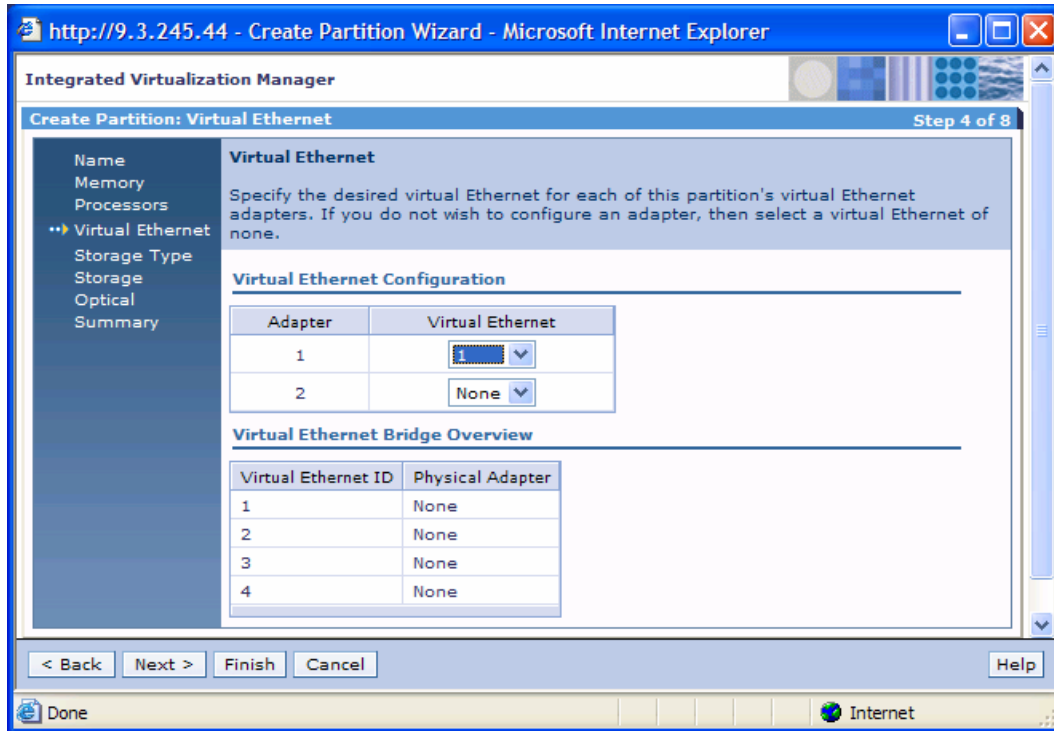

Figure 52. Selecting the Virtual Ethernet
- Click **Virtual Ethernet**. Accept the default value of **1** (see Figure 52). (**Note:** Do not enter a bridge value at this point, as you will set the Ethernet bridge later.) Click **Next**.